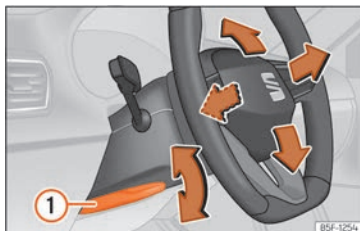

Fig. 9 Lever in the lower left side of the steering column.
- Pull the  **Fig. 9**  lever down, move the steering wheel to the desired position and lift the lever back up until it locks.
- After adjusting the steering column, push the lever  **Fig. 9**  firmly upwards to ensure the steering wheel does not accidentally change position while driving.